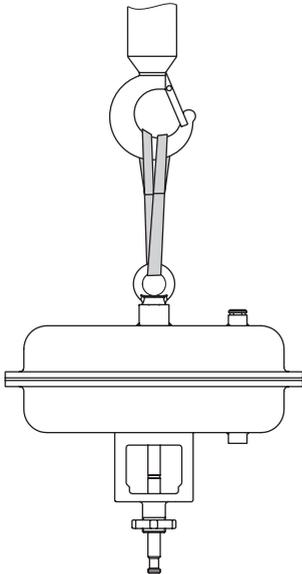

Fig. 4: Lifting point on the actuator
the valve body must bear the entire load (see Fig. 4).
1. Attach a sling to the lifting eyelet of the actuator and to the rigging equipment (e.g. hook) of the crane or forklift (see Fig. 4).
*We recommend using a hook with safety latch (see Fig. 4). The safety latch prevents the slings from slipping during lifting and transporting.*